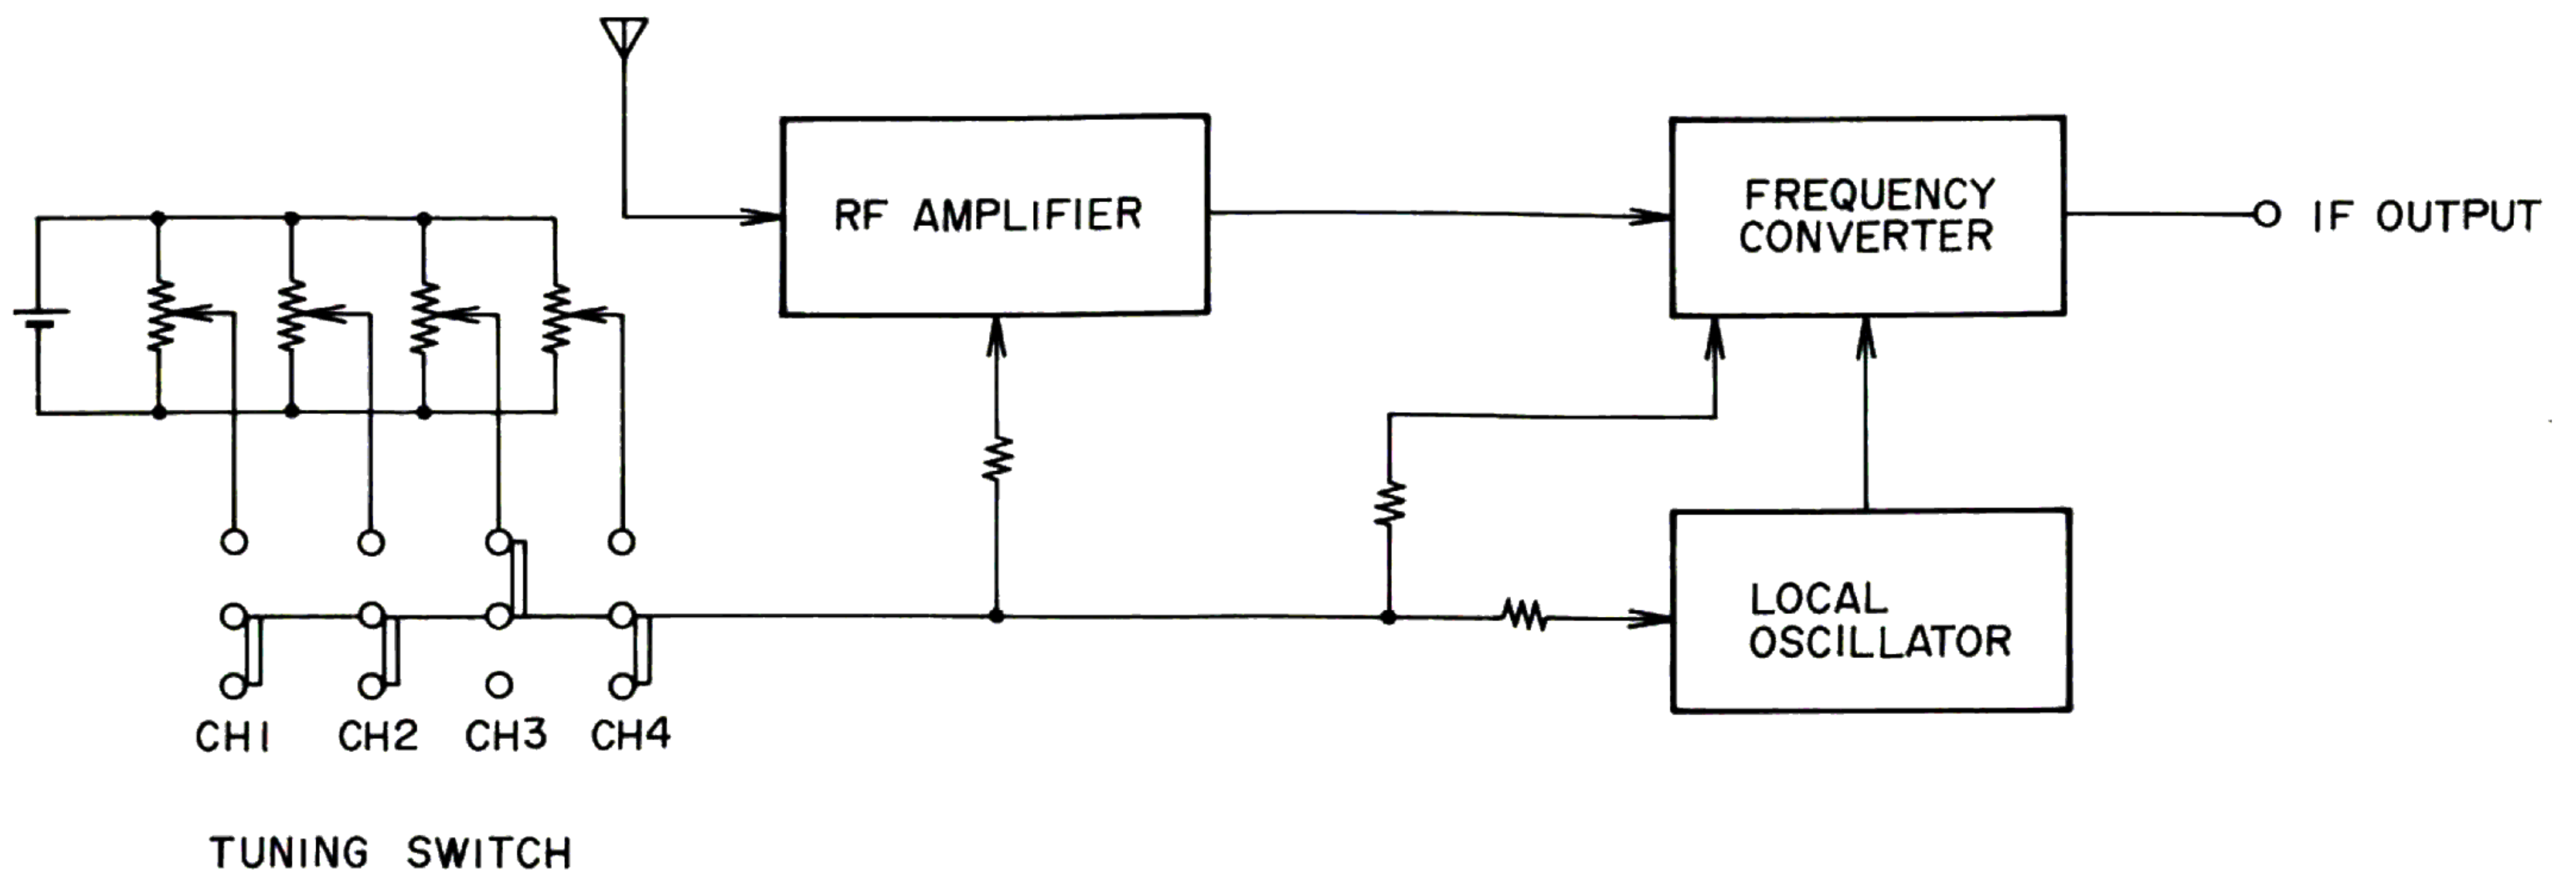

Fig. 21 Block Diagram
- 2) An example of a station selection system employing a varactor tuner is shown in Fig. 21. For station selection, push switches are used for selection of voltage supply to the varactor tuner. However, in the AA-1015PL, these station selection push switches are pure electronic system sensi-touch switches.